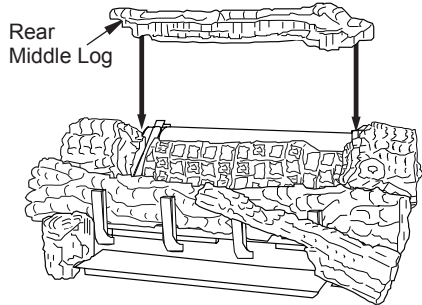

Figure 54 - Installing Rear Middle Log
8. The rear middle log should fit between the ramp log and the rear burner. The left and right middle logs have recessed areas for the rear middle log to sit into (See Figure 54). Be careful not to push the rear burner out of position while installing this log.